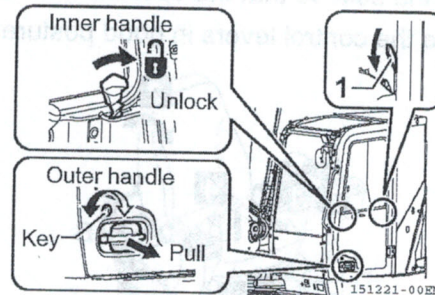

Fig. 2-98
1. Pull the lever (Fig. 2-98, 1) downward to unlatch the side door.